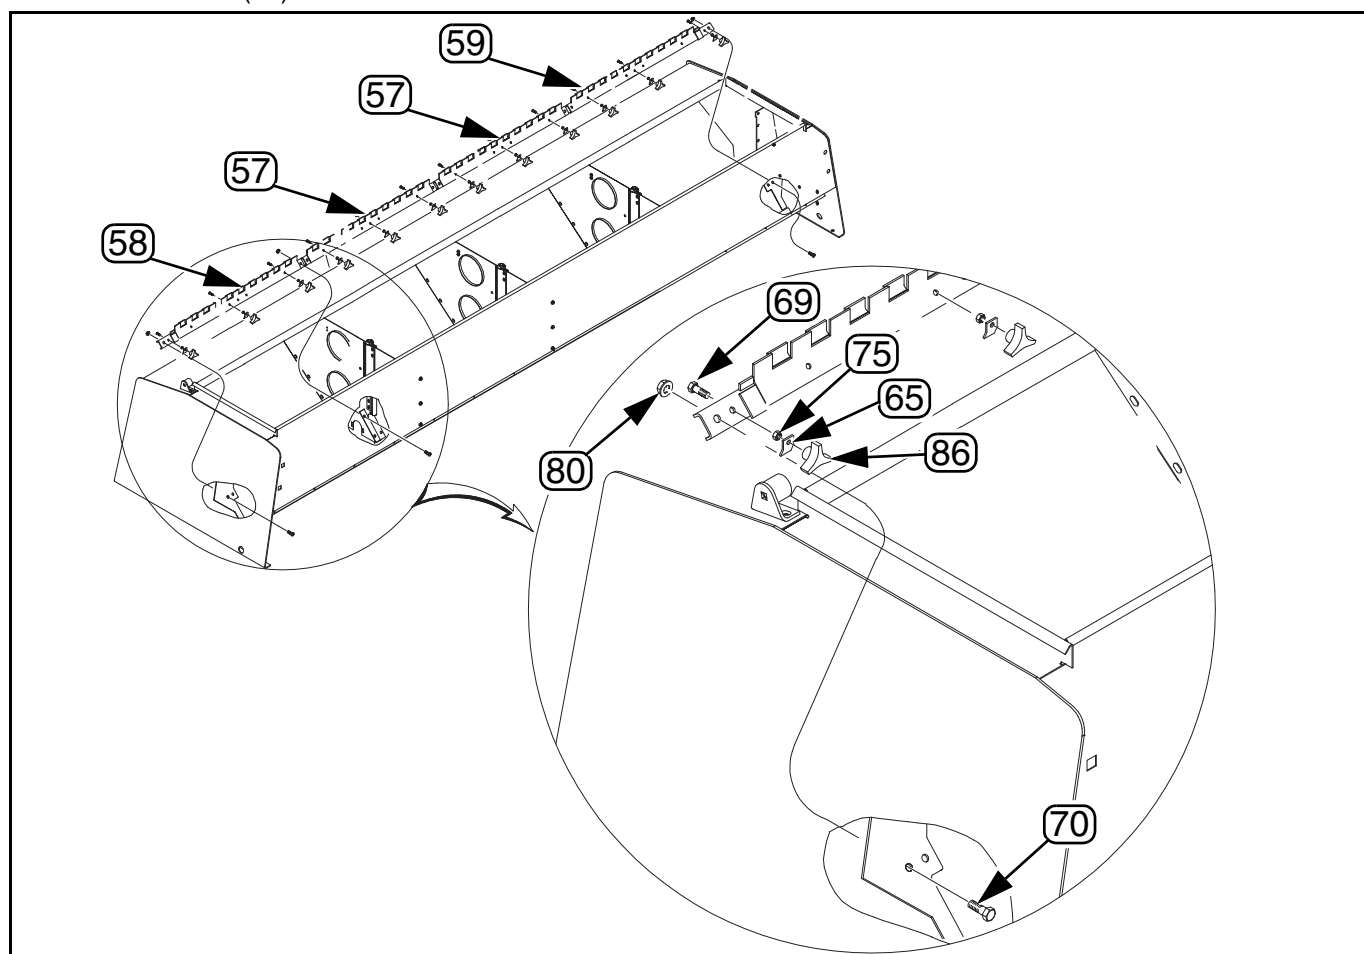

Figure 18
**Refer to Figure 18**
7. Attach knobs (86) and retaining clips (65) to bottom divider brackets (58), (57), and (59) using 1/4-20 x 1 bolts (69) and 1/4-20 hex lock nuts (75).
8. Place left-hand bottom divider bracket (58) in box on left-hand side of drill. Secure left-hand bottom divider bracket to partition and box using 3/8-16 x 1 bolts (70) and 3/8-16 flange lock nuts (80).
9. Place center bottom divider brackets (57) in box in center of drill. Secure center bottom divider brackets to partitions using 3/8-16 x 1 bolts (70) and 3/8-16 lock nuts (80).
10. Place right-hand bottom divider bracket (59) in box on right-hand side of drill. Secure right-hand bottom divider bracket to partition and box using 3/8-16 x 1 bolts (70) and 3/8-16 lock nuts (80).